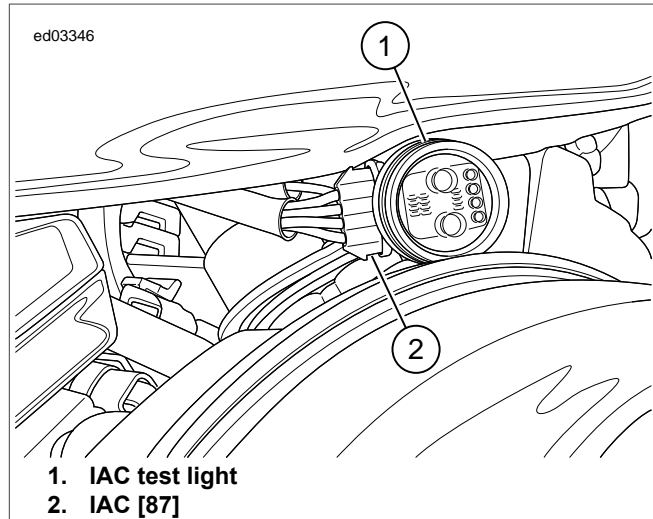

Figure 1-6. IAC Test Light
1. See Figure 1-6. Disconnect IAC [87B] and connect test light.